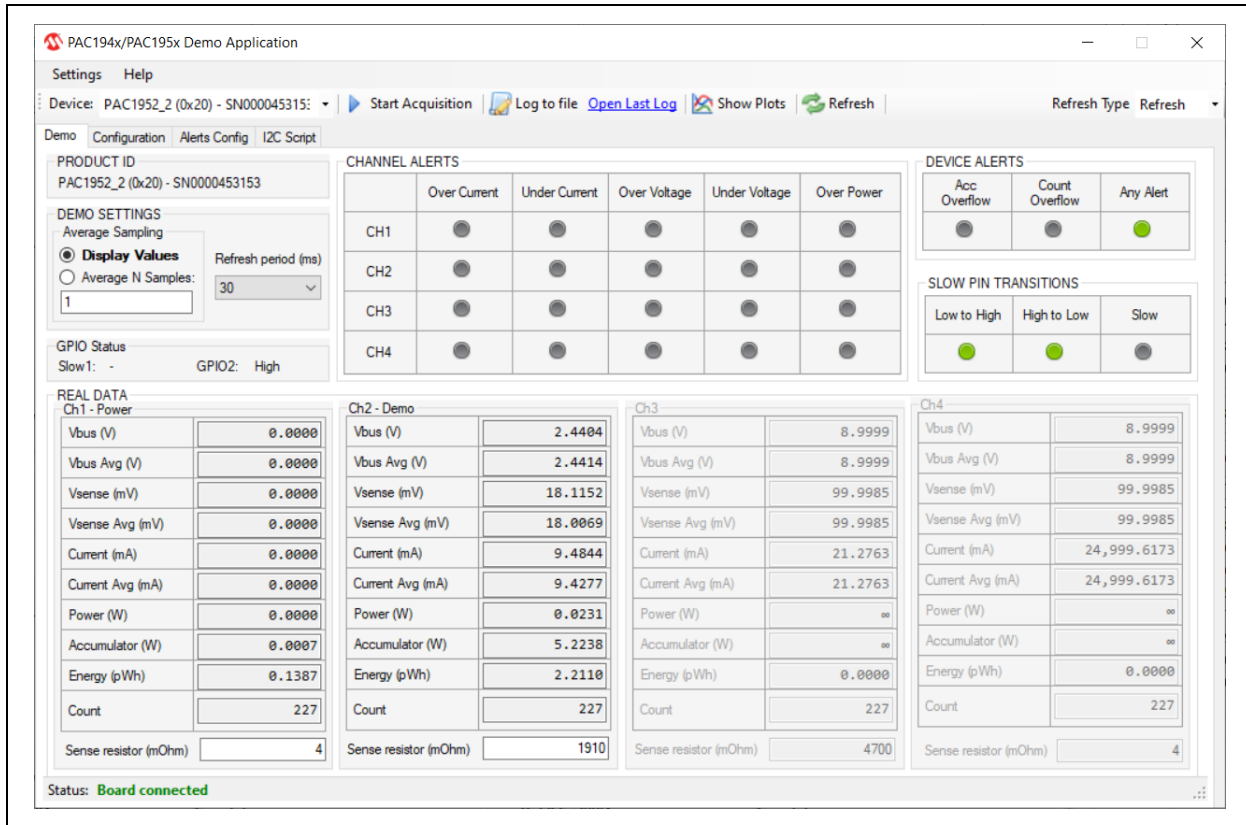
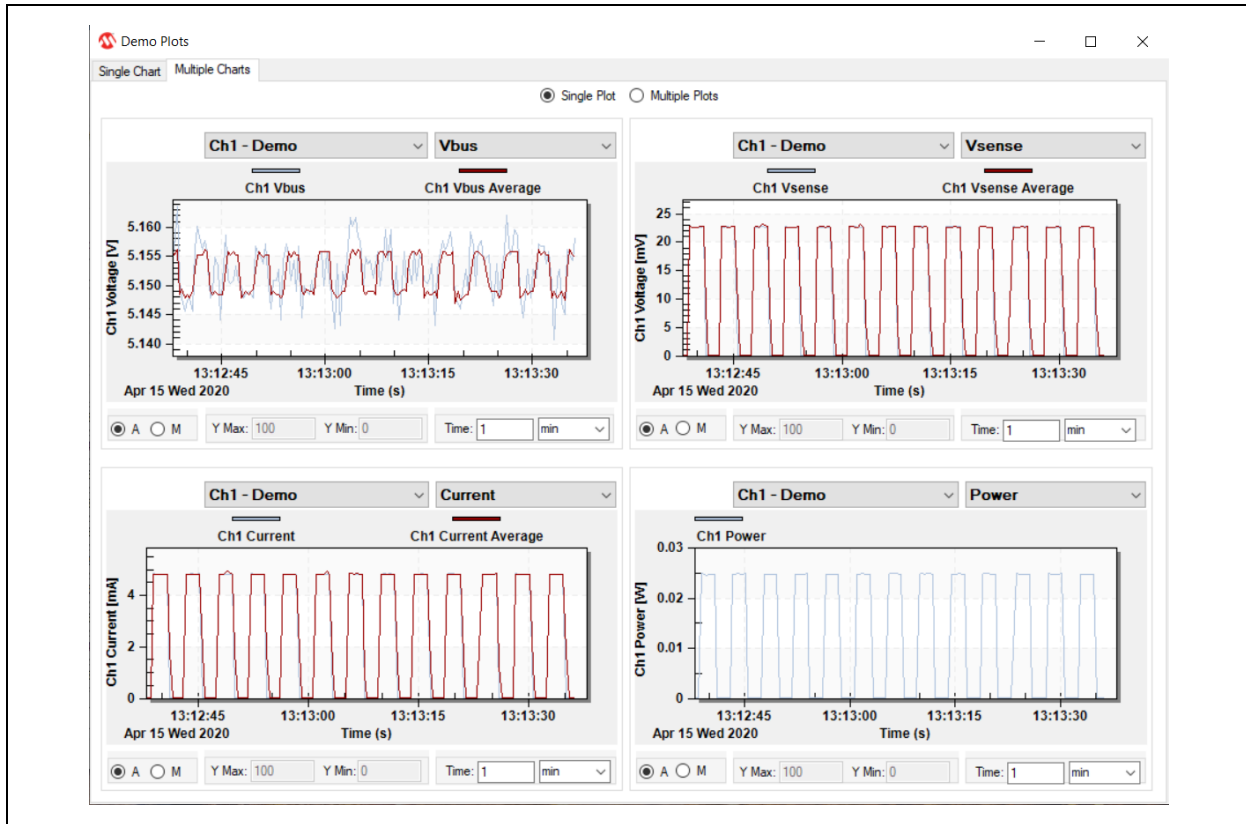

FIGURE 3-16: Channel Renaming Example.
FIGURE 3-17: Plots with Renamed Channels.
2. Rename Channels – This setting allows the user to change the name of a channel from CH1 to “Ch1 - Text”. The new name will be visible in the Demo Application window, as well as the Demo Plots (see Figure 3-16 and Figure 3-17).